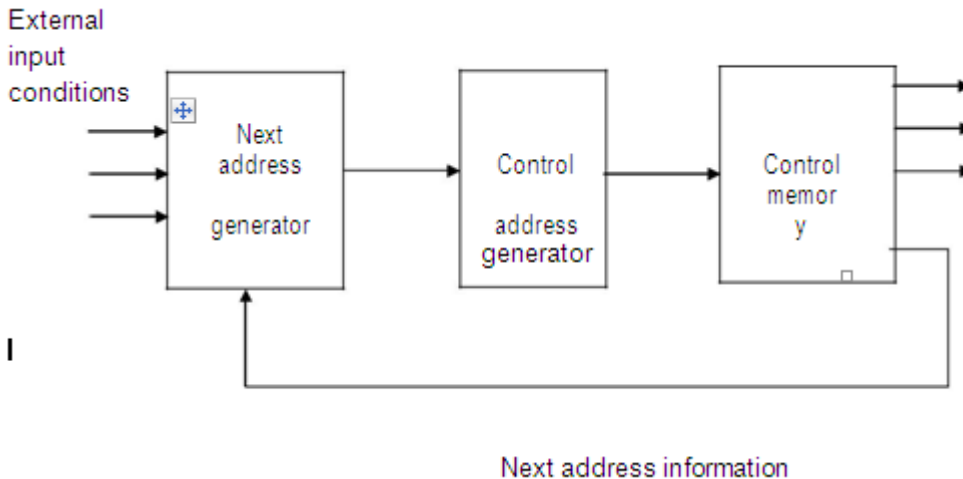

Figure 5.15 Microprogram control logic
- Figure 5.15 illustrates the general configuration of the microprogram control unit.